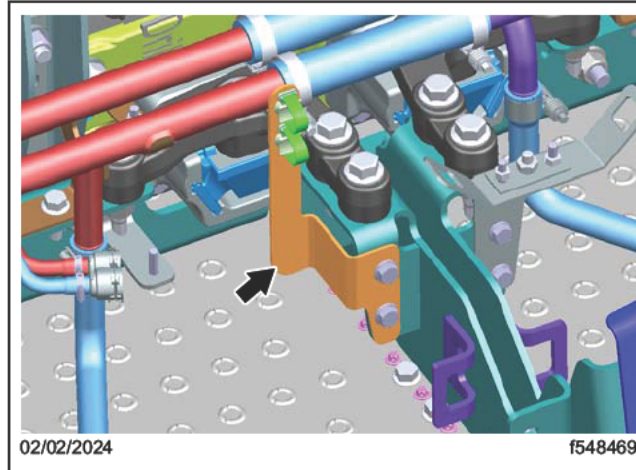

Fig. 4, Ground Cable Support Bracket
18. Remove the ground cable support bracket from the front high voltage battery B1 mounting bracket, then remove the coolant pipe. See Fig. 4.